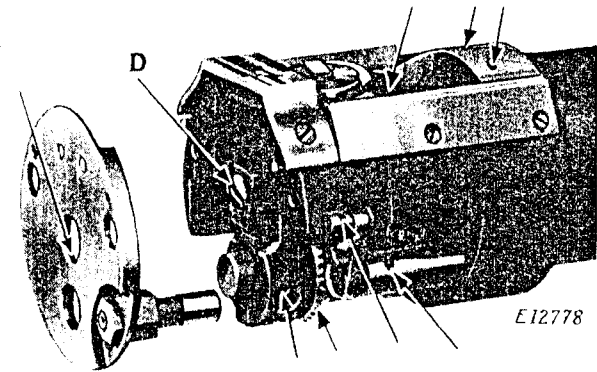
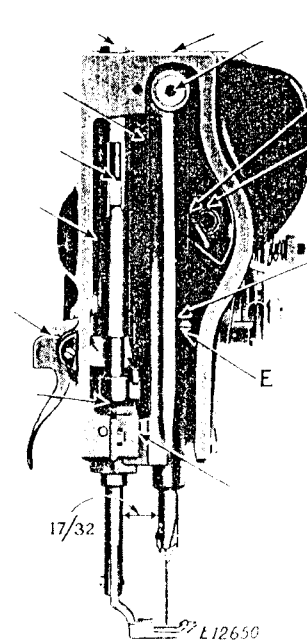

Fig.4. Oiling Points and Adjustment in End of Cylinder
Fig.5. Machine 153W100
Remove the cylinder end cover and apply oil to the places indicated in Fig.4. Move the face plate aside and oil the wick and bearings shown in Fig.5, then replace the face plate.
In case the needle bar is not correctly set, loosen the needle bar connecting stud pinch screw (E, FIG. 5) and place the needle bar in correct position as directed above, then retighten the screw (E).
The distance between the needle bar and presser bar, after turning the stitch regulator so that there is no feed movement, should be  $17/32$  inch as shown in FIG. 5.